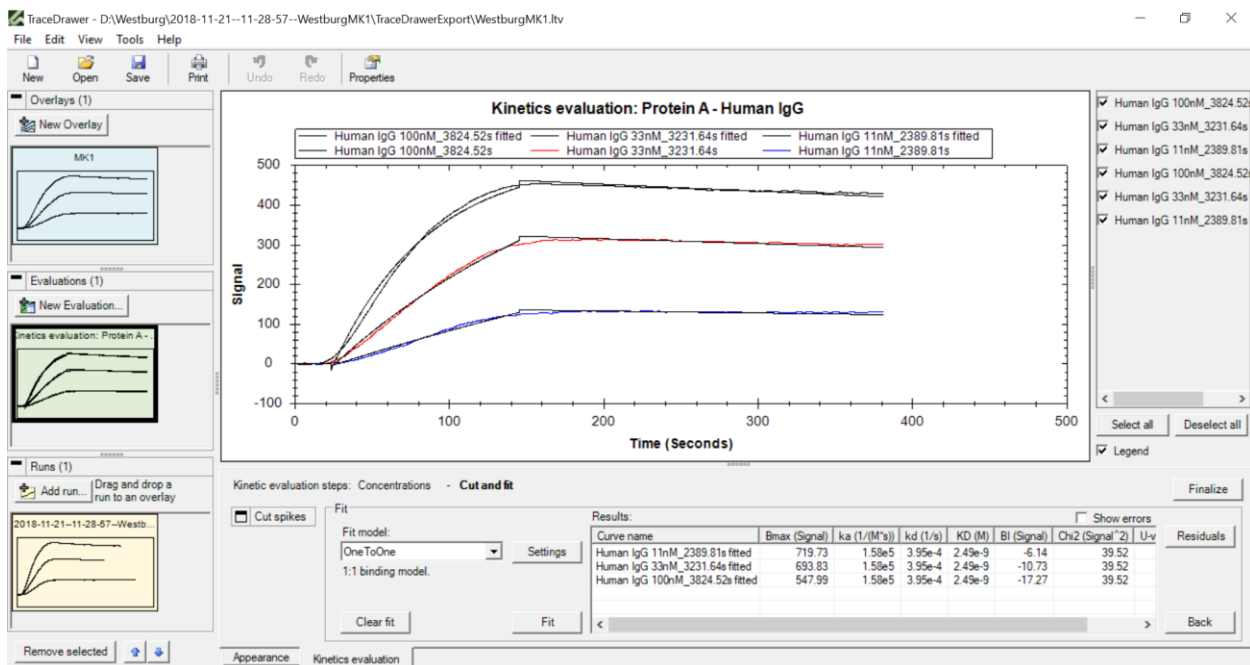

Figure 5.1 Fitted Human IgG curves with resulting KD in the range of 1.0^{-9} .
1) Fit the data in TraceDrawer using a 1:1 binding model [Figure 5.1]. The measured KD should come out around 1×10^{-9} M (approximately from 0.5 - 5 nM).